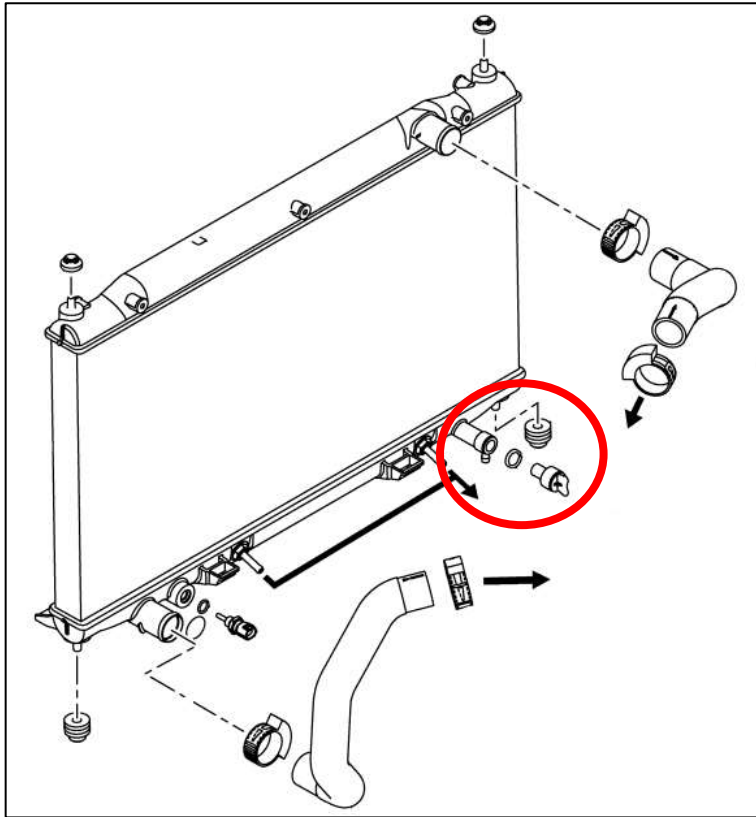

Figure 3
- a. If choosing to drain coolant, remove the Drain Plug on the bottom of the Radiator, then remove the Coolant Reservoir Cap. Drain and collect all coolant. It is advised to let the vehicle cool before draining to prevent being burned by hot coolant. *Figure 3.*